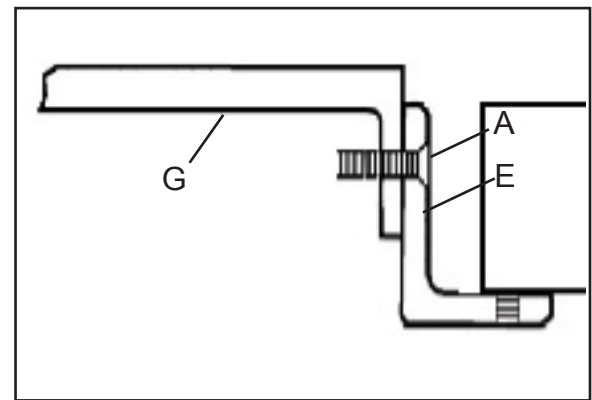

Figure 6
2. Align the “L” shaped bar so the left notch (H) matches the miter slot on the left extension wing.
3. Secure the front rail (E) to the table (G) and table wings (F) with five countersunk head screws (A). Tighten just enough to hold the rail next to the table but keep loose enough to allow height adjustment. Figure 6.